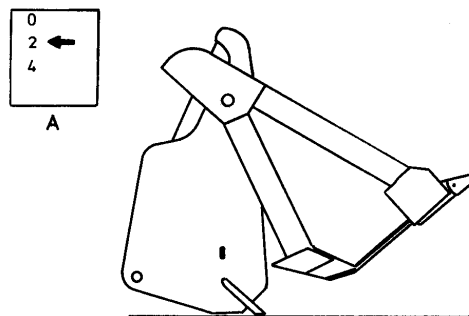

Fig. 4.42. Multi-purpose Bucket set in "Scraper" Position.
2. To use the multi-purpose bucket for scraping, position the bucket on the ground and open the clam until the indicator points to "2" or "4" on the clam product graphic (A, Fig. 4.42) according to the desired depth of cut.